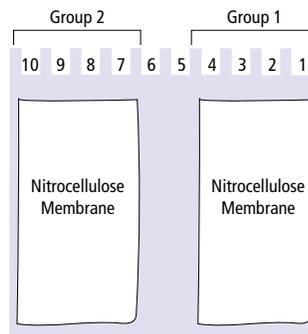

Figure 4: Placing the nitrocellulose membranes.
- PLACE** nitrocellulose membranes on top of the groups's respective gel lanes (Figure 4).